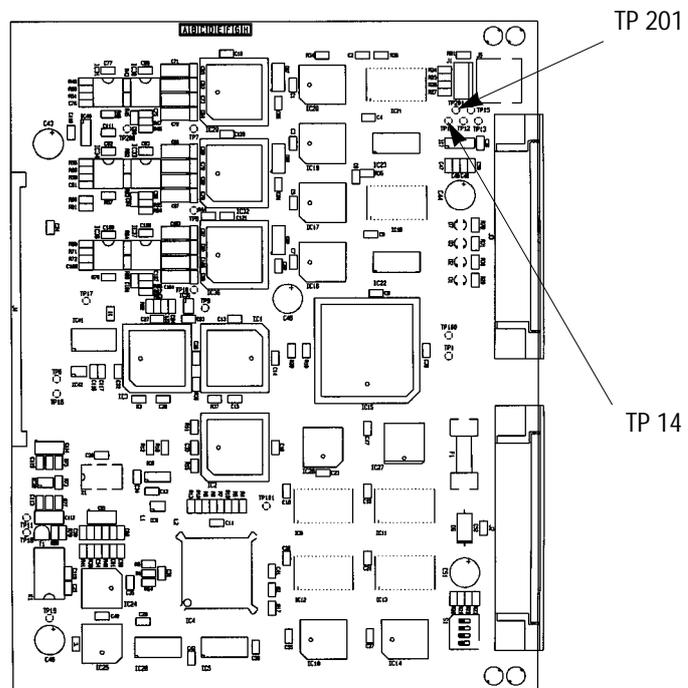

Fig. 2
- 14 • Connect a voltmeter to TP14 and TP201 (ground) on the control board (fig. 2), select 2 (Adjust PMT gain) and then T (Transmission) and adjust the gain value to approximately 3 volts. Select q (done) when complete.